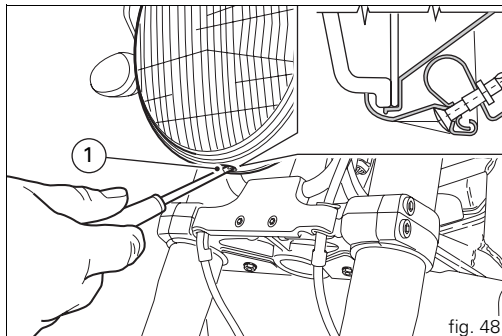
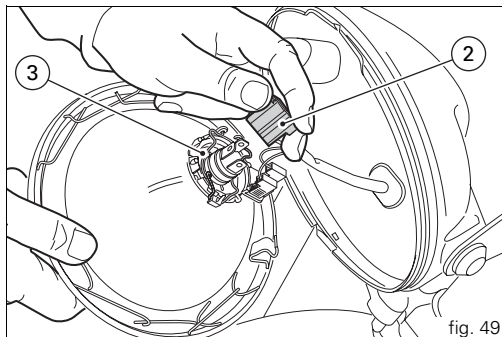

fig. 48
fig. 49
### **Headlight** (fig. 48, fig. 49, fig. 50, fig. 51)
To access the headlight bulbs, loosen the lower screw (1) that attaches the lens/reflector assembly to the shell. Disconnect the wiring connector (2, fig. 49) from the headlight bulb. Release the bulb retaining clip (3, fig. 49) and remove the bulb from its housing.
Do not touch the transparent part of the bulb with your fingers, this will darken it and cause a loss of brightness. Insert the tabs on the bulb base into the corresponding slots in the bulb housing to ensure the bulb is correctly positioned; hook the end of the clip (3, fig. 49) on to the headlight mountings. Reconnect the wiring.